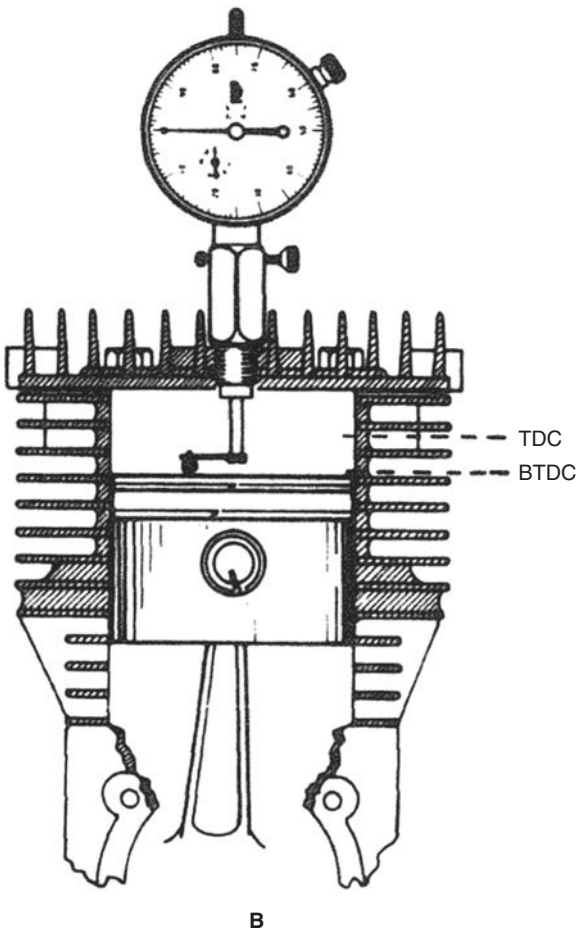

FIG. 3-11. (Continued)
Timing Magnetos for light motorcycles, outboard motors, and some utility engines have provision for timing adjustment (Fig. 3-11).
FIG. 3-11. *Phelton magnetos of the type found on American utility engines have timing marks as an assembly convenience (A). High-performance engines should be timed with a dial indicator, such as the Tecumseh PN 670241 (B). The piston is brought up to top dead center, the indicator zeroed, and the flywheel turned until the piston (which should be free of carbon deposits) is at the specified distance before TDC. Timing is correct when turning the magneto stator against the direction of engine rotation just cracks the points open. An ohmmeter with one test lead clamped to the moveable contact arm and the other grounded gives an accurate indication of point break. A piece of cigarette paper inserted between the closed contacts can also be used to detect point separation.*